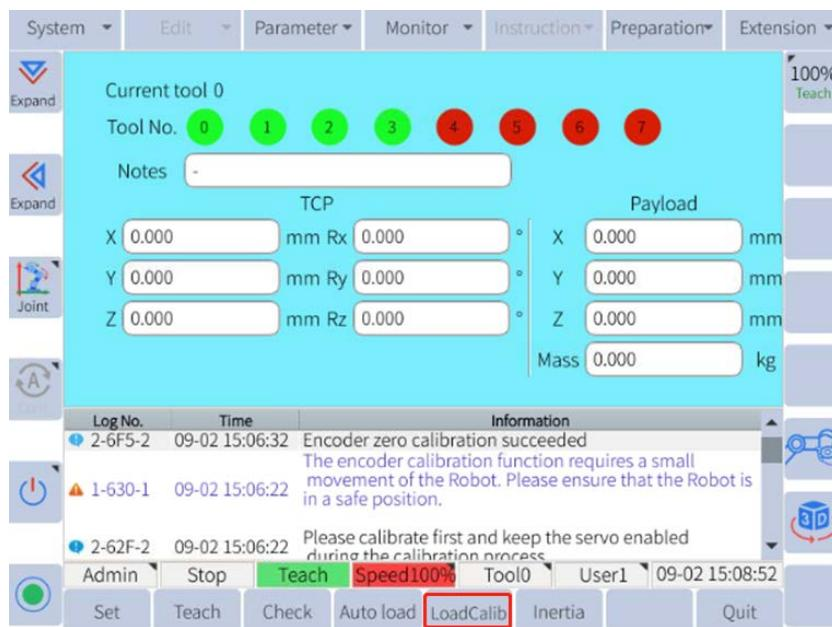

Figure 6-31: LoadCalib at the bottom
- Click **LoadCalib** at the bottom, as shown in **Figure 6-31**.